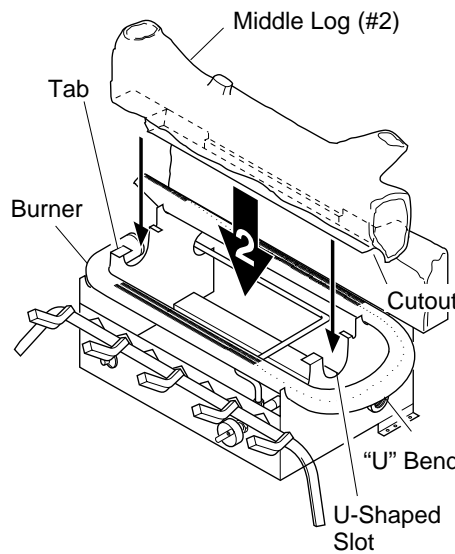

Figure 18 - Installing Middle Log (#2)
2. Place the base of the middle log (#2) in the U-shaped slots of the grate base in front of the back log. The cutout on the right of the middle log should fit over the burner (see Figure 18). Make sure the front of the middle log is resting on the tabs of the grate base and the cutout area is centered over the burner "U" bend.